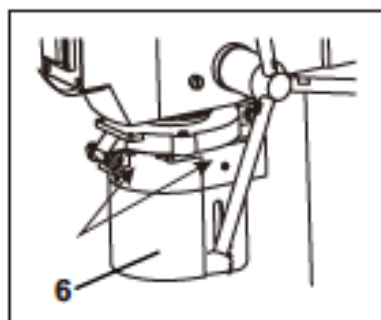

Fig 8a
Position the transparent plastic shield into the collar and secure in place with the small screw. The Chuck Guard is spring loaded and on a hinge which allows the guard to be moved upwards to expose the Chuck(9) for drill installation and removal. Always return the guard to cover rotating parts. Simply unscrew the wing nuts and the two piece guard will extend vertically up or down. Chuck Guard is adjustable to varying depths to give more protection. (Fig 8a–8b)